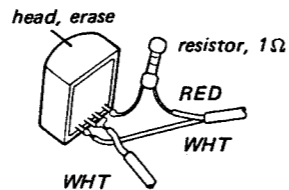

Fig. 9-18 Erasing current check setup
- Be sure that the ratio of the recorded part to the erased part is more than 70 dB in level. If not, perform the tape pass adjustment and be sure that the erasing current is 80 ~ 110 mA. To measure the erasing current, connect a 1 Ω resistor in series to the erase head as shown in Fig. 9-18 and the VTVM across the 1 Ω resistor.